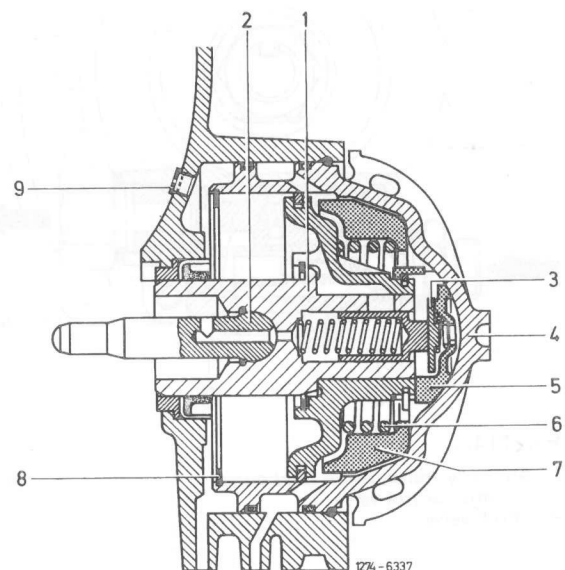

Fig. 113
The thrust pin (2) on brake band piston B 2 (1) is movable in its mounting while a plastic filler ring (7) is additionally installed between piston and cover to fill the space around the bypass valve (3), so that the brake band will grip faster (Fig. 113).